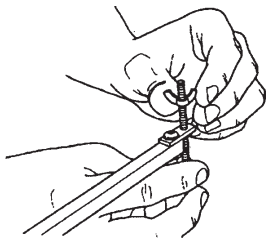

Fig. 18
7. Thread the wing nut (6) on the center pin (4), as shown in Fig. 18. The "wings" should face away from the tip of the center pin.